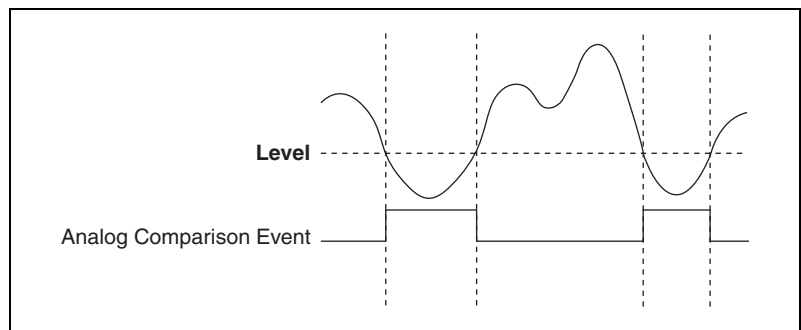

Figure 11-4. Below-Level Analog Triggering Mode
- **Analog Edge Triggering**—Configure the analog trigger circuitry to detect when the analog signal is below or above a level you specify. In below-level analog triggering mode, shown in Figure 11-4, the trigger is generated when the signal value is less than Level.